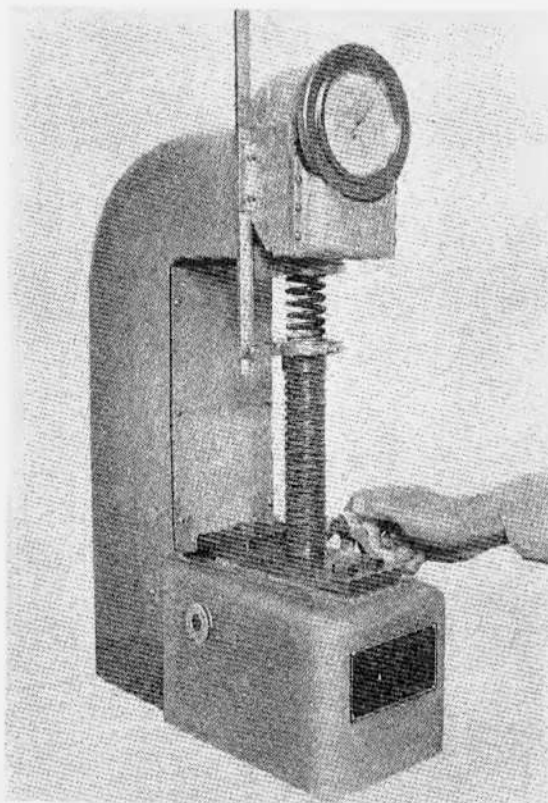

Figure 11 – Checking Valve Spring Tension
(4) Check valve spring tension with spring tester (Fig. 11).